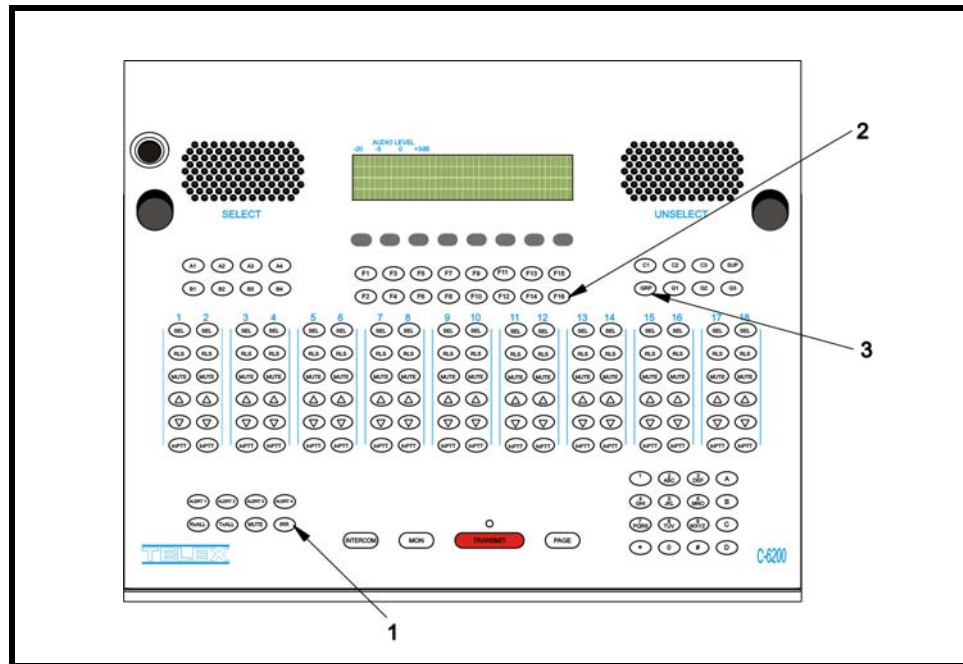

FIGURE 14. Enter Programming Mode Buttons
- > On the C-6200 keypad, press and hold the console **MUTE** button, **F16**, and the **GRP** button, in that order, see Figure 14.
- 1. On the C-6200, press and hold the **MUTE** button, the **F16** button, and the **GRP** button, in that order. *See Figure 14. The IP Address, Subnet Mask, and PIN menu appear.*